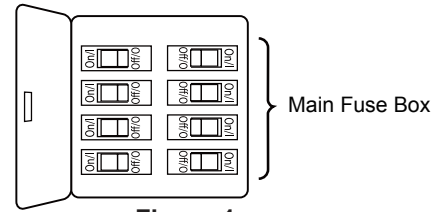
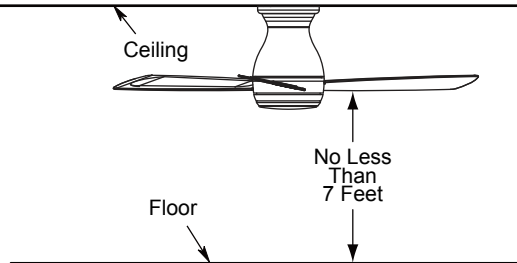
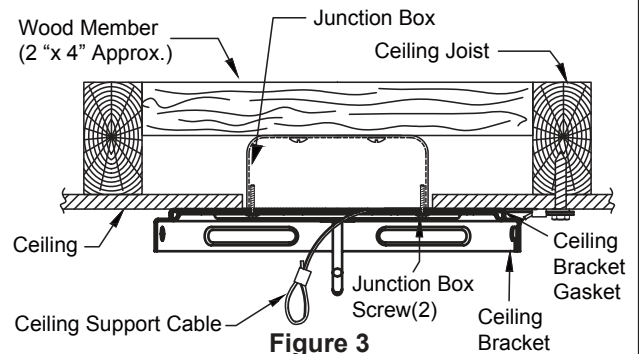

Figure 1
Figure 2
Figure 3
Your new ceiling fan will require a grounded electrical supply line of 120 volts AC, 60 HZ, 15 Amp Circuit. Electrical code requires use of a fan-rated outlet box to support the extra weight and motion associated with a ceiling fan. A fan-rated box will be labeled as such and typically supports up to a 70lb ceiling fan. Fan-Rated Outlet Boxes vary in ratings and design. Ensure the ratings of your ceiling fan outlet box meet the requirements for the ceiling fan being installed. Figure 1, Figure 2 and Figure 3 depicts different structural configurations that may be used for mounting the outlet box.
Low profile box (Figure 1)
Deep box (Figure 2)
Deep box with brace (Figure 3)
To avoid possible electrical shock, be sure electricity is turned off at the main fuse box before hanging. (Figure 1) **NOTE:** If you are not sure if the outlet box is grounded, contact a licensed electrician for advice, as it must be grounded for safe operation.
The fan must be hung with at least 7' of clearance from floor to blades. (Figure 2)
1. Using the 3/8 " x 2 " lag bolt and flat washer, attach safety cable to ceiling joist or wood structural member. The lag bolt will pass through the flat washer, safety cable loop, and into the building structure (Figure 3). You will first drill a 1/4 " pilot hole into the building structure to prevent splitting or cracking.
2. The ceiling support cable need to through the center hole of ceiling bracket when mounting. Using the two #8-32 screws and washers securely attach the ceiling bracket gasket and ceiling bracket to ceiling junction box as shown. (Figure 3)
1. Assemble the motor assembly to ceiling bracket using the previously removed screws and securely tighten all screws. (Figure 1)
2. Push the canopy trim ring up to conceal the screws, such that the mounting tabs seat into the dimpled grooves in the ceiling bracket midway between the screws. (Figure 2)
- 2. Assemble the light kit assembly to the support bracket using the two key slots in the light kit assembly. Replace the third screw and securely tighten all three screws. (Figure 2)
- 3. Remove one of the three screws in the light kit assembly and retain the screw for Step 5. Slightly loosen the remaining two screws. (Figure 3)
- 2.** Restore electrical power to the outlet box by turning the electricity on at the main fuse box. (Figure 2)
- 3.** To make fan operational, install 23A/12V battery (included) in hand-held remote transmitter, with fan power off. Then follow the remote code setting process. (If not used for long periods of time, remove battery to prevent damage to transmitter). Store the remote away from excessive heat or humidity. (Figure 3)